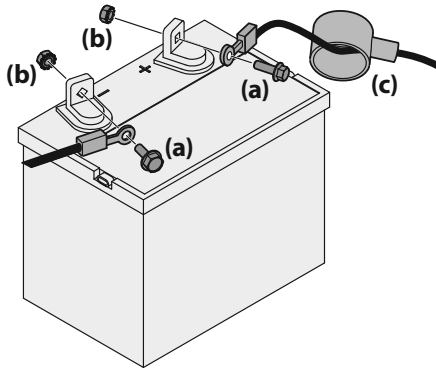

Figure 14
1. If present, remove the plastic cover from the positive battery terminal. Attach the red connector to the positive battery terminal (+) using the bolt (a) and hex nut (b). See Figure 14.
2. If present, remove the plastic cover from the negative battery terminal and attach the black cable to the negative battery terminal (-) with the bolt (a) and hex nut (b). See Figure 14.
3. Position the red rubber boot (c) over the positive battery terminal (+) to help protect it from corrosion. See Figure 14.